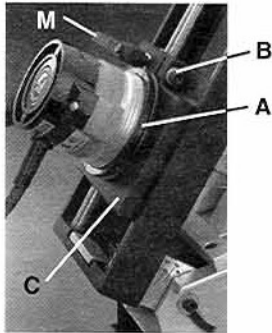
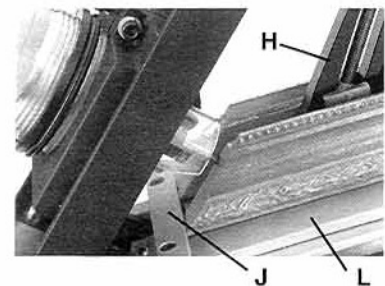
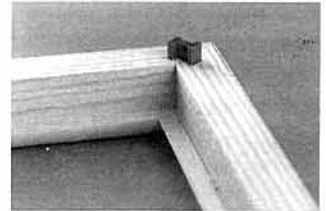
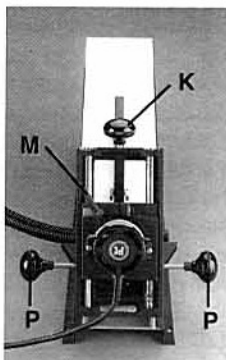

Figure 1
Figure 3
Figure 6
Figure 7
5. Place the **MICRO ADJUSTING RING (A) Figure 1**, over the router motor and screw it to the far end of the motor leaving about 1/2 inch of threads.
2. This procedure requires two pieces of moulding which have been accurately mitered to 45 degrees. Place one on each side of the **FENCE (H)** and downward against the **MOULDING STOP (J)**, **Figure 3**. Tighten the **CLAMP (K)**, **Figure 7**. Loosen the hex screw on the **ROUTER SLIDE** and pull the **ROUTER** away from the moulding. Rotate the **PIVOTING BASE (L)** until the **ROUTER BIT** is in line with the end of either of the frame pieces. You may have to adjust the position of the **ROUTER** to align the **ROUTER BIT** with the ends of the mouldings. The **LOCKING LEVER (M)**, **FIGURE 1**, is loosened to move the **ROUTER SLIDE** up or down. Push the **ROUTER** toward the moulding until the tip of the **BIT** touches the mitered end of the moulding.
4. The previous procedure approximates the correct depth. The next step will set it precisely. Connect the power cord to the appropriate electrical source. Turn on the vacuum system and the router switch. Rotate the **PIVOTING BASE** by pushing or pulling the **CUTTING HANDLES (P)**, **FIGURE 7**. Rout the frames as deep as their width permits. (More later about the **ROUTER STOPS**.) Loosen the **CLAMP (K)** and remove the mouldings. Place the mitered ends of the frame pieces together and insert the short wedge without forcing. It should enter about half its length into the slot. If the wedge does not go into the routed slot half way, the router bit depth must be *decreased*. See **Figure 6**.
1. The purpose of any method of corner fastening is (1) hold the moulding tightly in the proper position while the glue sets, and (2) provide a mechanical connection at the corner in case the glue fails at a later date. The **Fletcher CornerLock 4000** accomplishes these objectives in a unique way. You should rout as deeply as possible so the wedge exerts its tightening force nearer the front surface of the frame to make a neater joint. The **CornerLock 4000** routs the slot on an arc so the deeper the wedge, the tighter the joint.
2. Place two pieces of moulding on the **PIVOTING BASE** with their bottom surfaces against the **FENCE**. Push the mitered end of the mouldings against the **MOULDING STOP**. While holding them snugly in this position, tighten the **CLAMP KNOB (K)** shown in **Figure 7**.